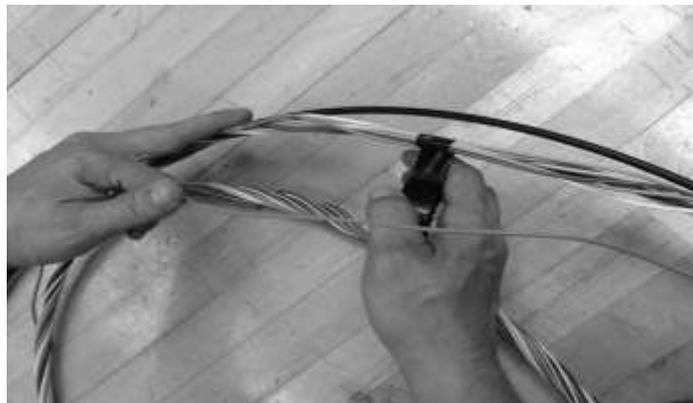
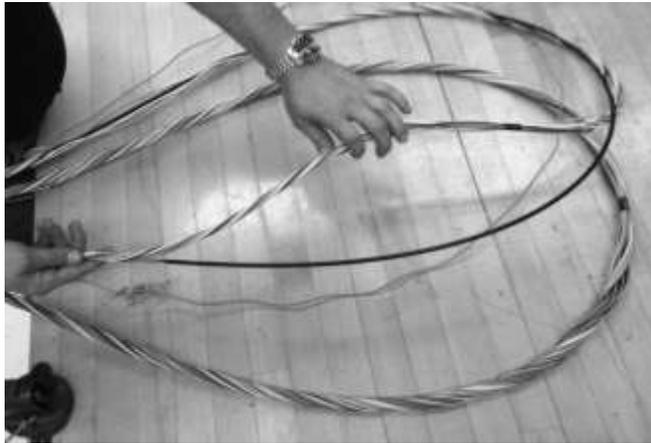

Figure 50 – Wrap a length of vinyl tape around the tubes at the ROL location.
Figure 51 – Unwind the inner layer of buffer tubes to expose the central strength member.
7.4 Begin unwinding the remaining buffer tubes to expose the central strength member. Wrap a length of vinyl tape around the tubes at the centermost ROL location (Figure 50). Continue unwinding the buffer tubes as far as possible as allowed by the location of the ROLs (Figure 51).